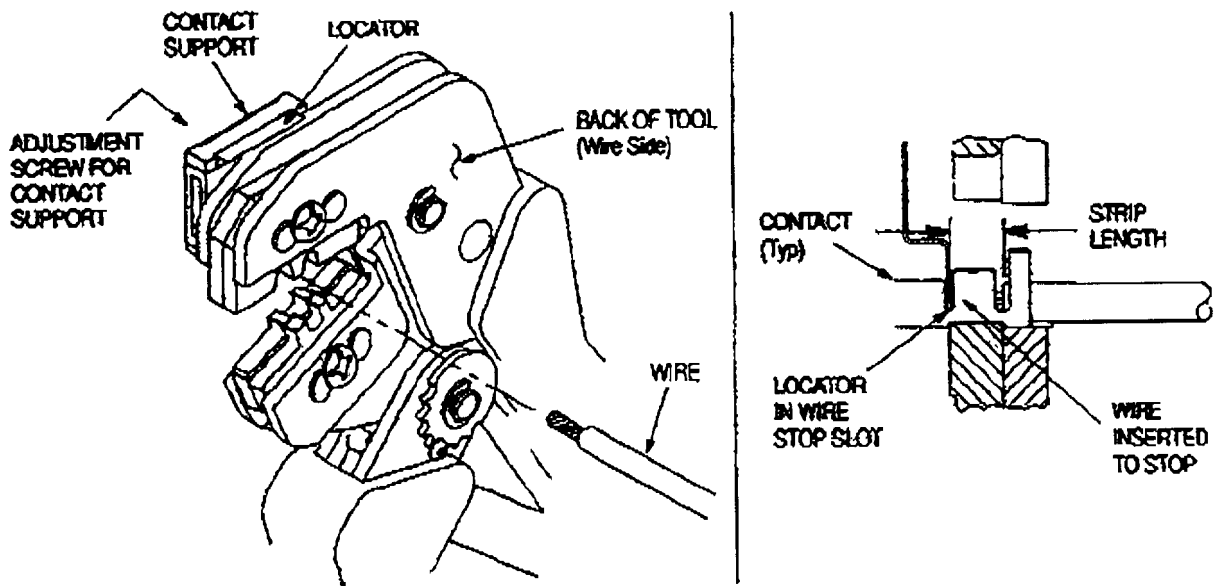

Figure 3
Refer to the table in Figure 1 and select wire of the specified size and insulation diameter. Strip the wire to the length indicated in Figure 1, taking care not to nick or cut wire strands. Select an applicable contact and identify the appropriate crimp section according to the wire size markings on the tool. Refer to Figure 3 and proceed as follows:
3. Position the contact so that the mating end of the contact is on the locator side of the tool, and so that the open "U" of the wire and insulation barrels face the top of the tool. Place the contact up into the nest so that the movable locator drops into the slot in the contact. Refer to Figure 3. Butt the front end of the wire barrel against the movable locator.
5. Insert stripped wire into contact insulation and wire barrels until it is butted against the wire stop, as shown in Figure 3.
NOTE *The crimped contact may stick in the crimping area, but the contact can be easily removed by pushing downward on the top of the locator (see Figure 3).*